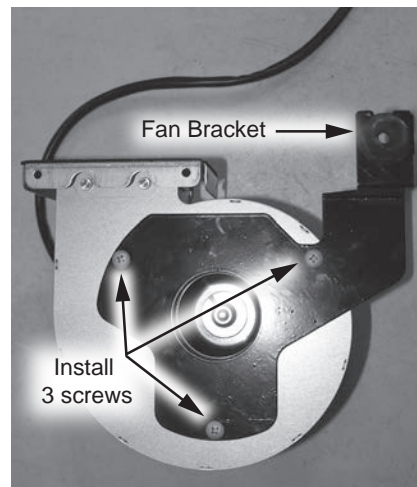

Figure 106 - Install fan bracket
**25** Remove the three screws securing the fan bracket to the old fan assembly. Place screws aside in a safe place for reinstallation. See Figure 106.
**26** Secure the new fan bracket to the new fan assembly using the screws removed **Step 25**. See Figure 106.